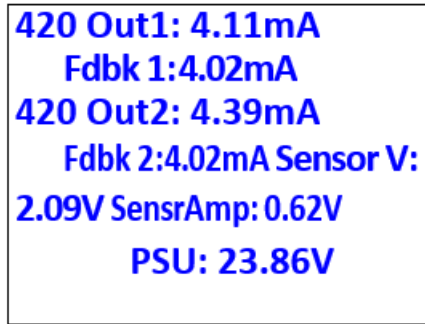

Figure 10-2 ADC Readings Diagnostics Menu
- Sensor amplifier and power supply voltage as shown in Figure 10-2